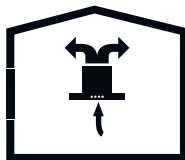

Fig. 4: Air Circulation with Carbon Filter
*Absorbed air is cleaned by the grease filters and an active carbon filter, and then it is transferred back to the kitchen. Fig. 4*